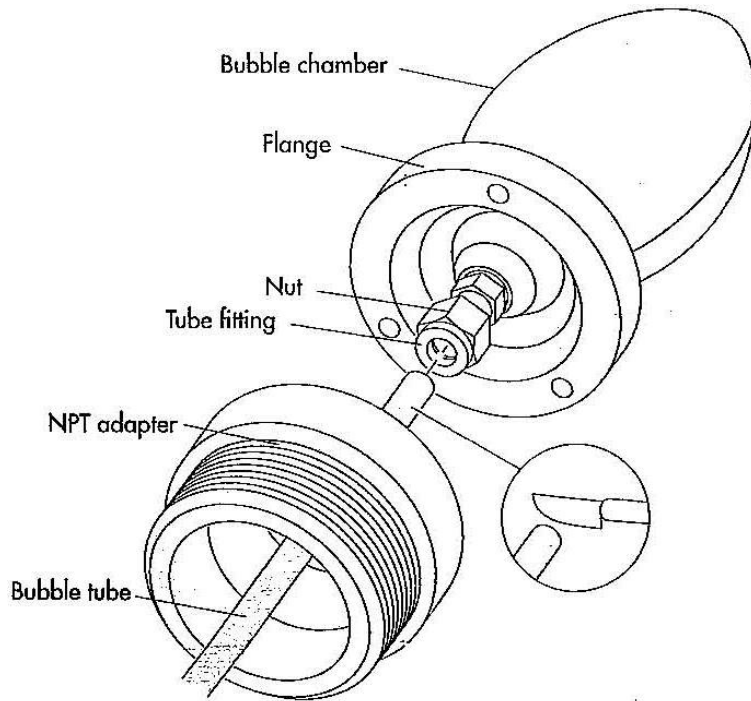

FIGURE 7-3. *Connection of the Bubble Tube*
6. Detach the NPT adapter from the bubble chamber by unscrewing the three hexagonal screws of the bubble chamber's flange (see FIGURE 7-3).